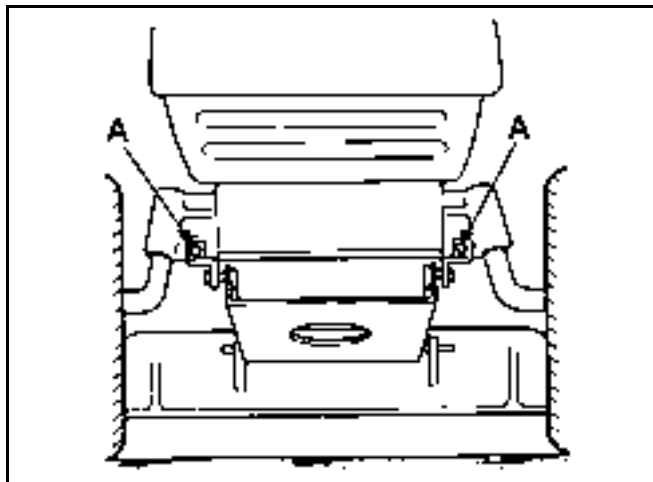

Figure 201
5. Install the mower pivot mount brackets to the front axle with bolts and locknuts (Figure 201).